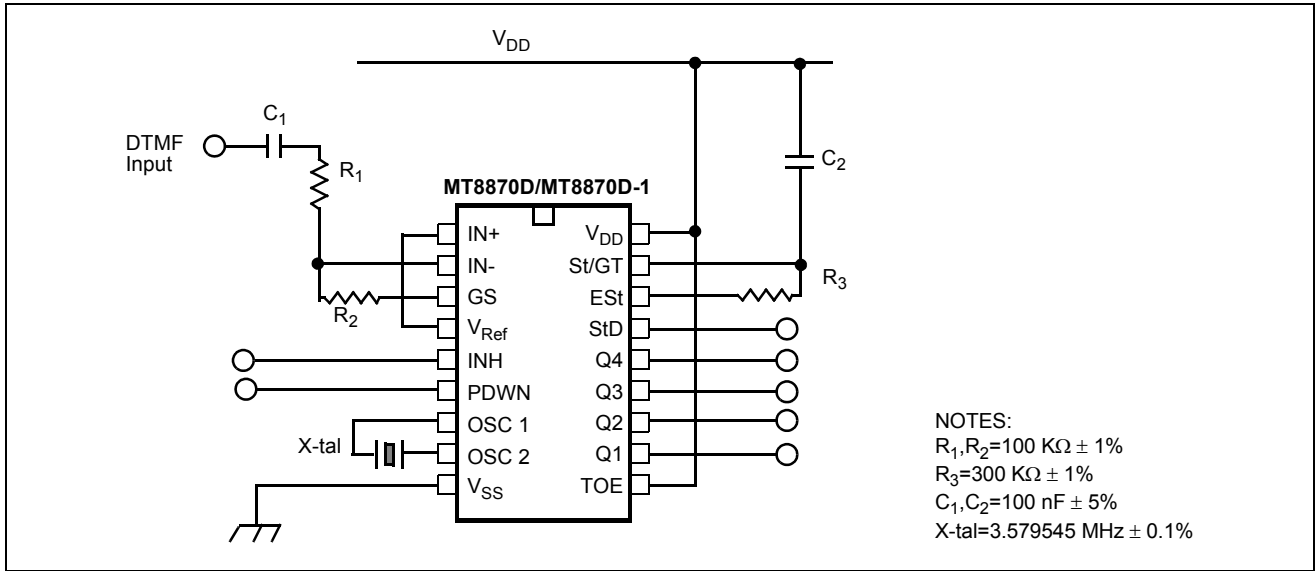

Figure 10 - Single-Ended Input Configuration
MT8870D AC Electrical Characteristics $-V_{DD}=5.0V \pm 5\%$, $V_{SS}=0V$, $-40^{\circ}C \leq T_O \leq +85^{\circ}C$, using Test Circuit shown in Figure 10.
MT8870D-1 AC Electrical Characteristics - $V_{DD}=5.0V\pm 5\%$, $V_{SS}=0V$, $-40^{\circ}C \leq T_O \leq +85^{\circ}C$, using Test Circuit shown in Figure 10.
12. Referenced to Fig. 10 input DTMF tone level at -25dBm (-28dBm at GS Pin) interference frequency range between 480-3400Hz.
AC Electrical Characteristics - $V_{DD}=5.0V\pm 5\%$, $V_{SS}=0V$, $-40^{\circ}C \leq T_o \leq +85^{\circ}C$, using Test Circuit shown in Figure 10.